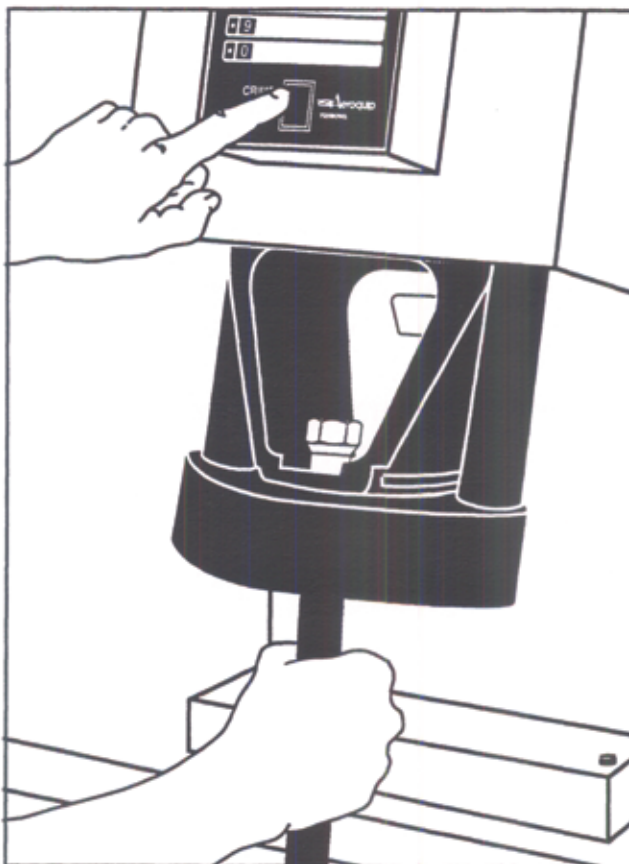

Figure 6
4. To crimp the fitting, depress the CRIMP switch. The crimp ring will rise until the fitting is fully crimped (figure 6). It will then stop and begin to retract, signifying that the crimp is complete. Remove your finger from the CRIMP switch. The crimp ring will automatically retract and stop at the "soft retract" position (about 1/2-inch short of being fully retracted).